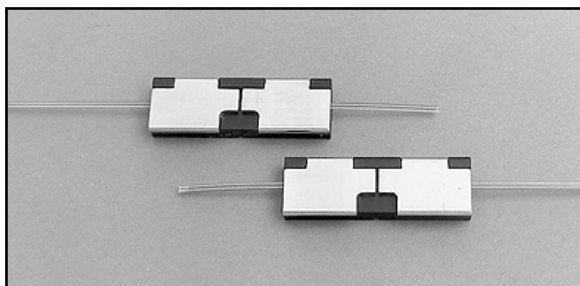

Fig. 12 - Ribbons placed in the left and right fibre holders
2. Put the ribbons into the left and right fibre holders so that between 25-35 mm of ribbon sticks out as illustrated in fig. 12.